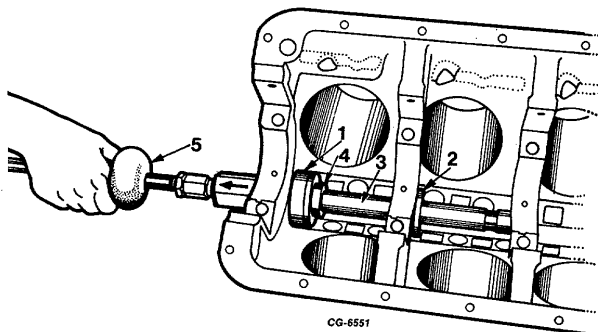

Fig. 87 Removing Front Camshaft Bearing
6. Remove "C" washer and use second adapter as a pilot. Remove front bearing by pulling bearing from case (Figure 87).